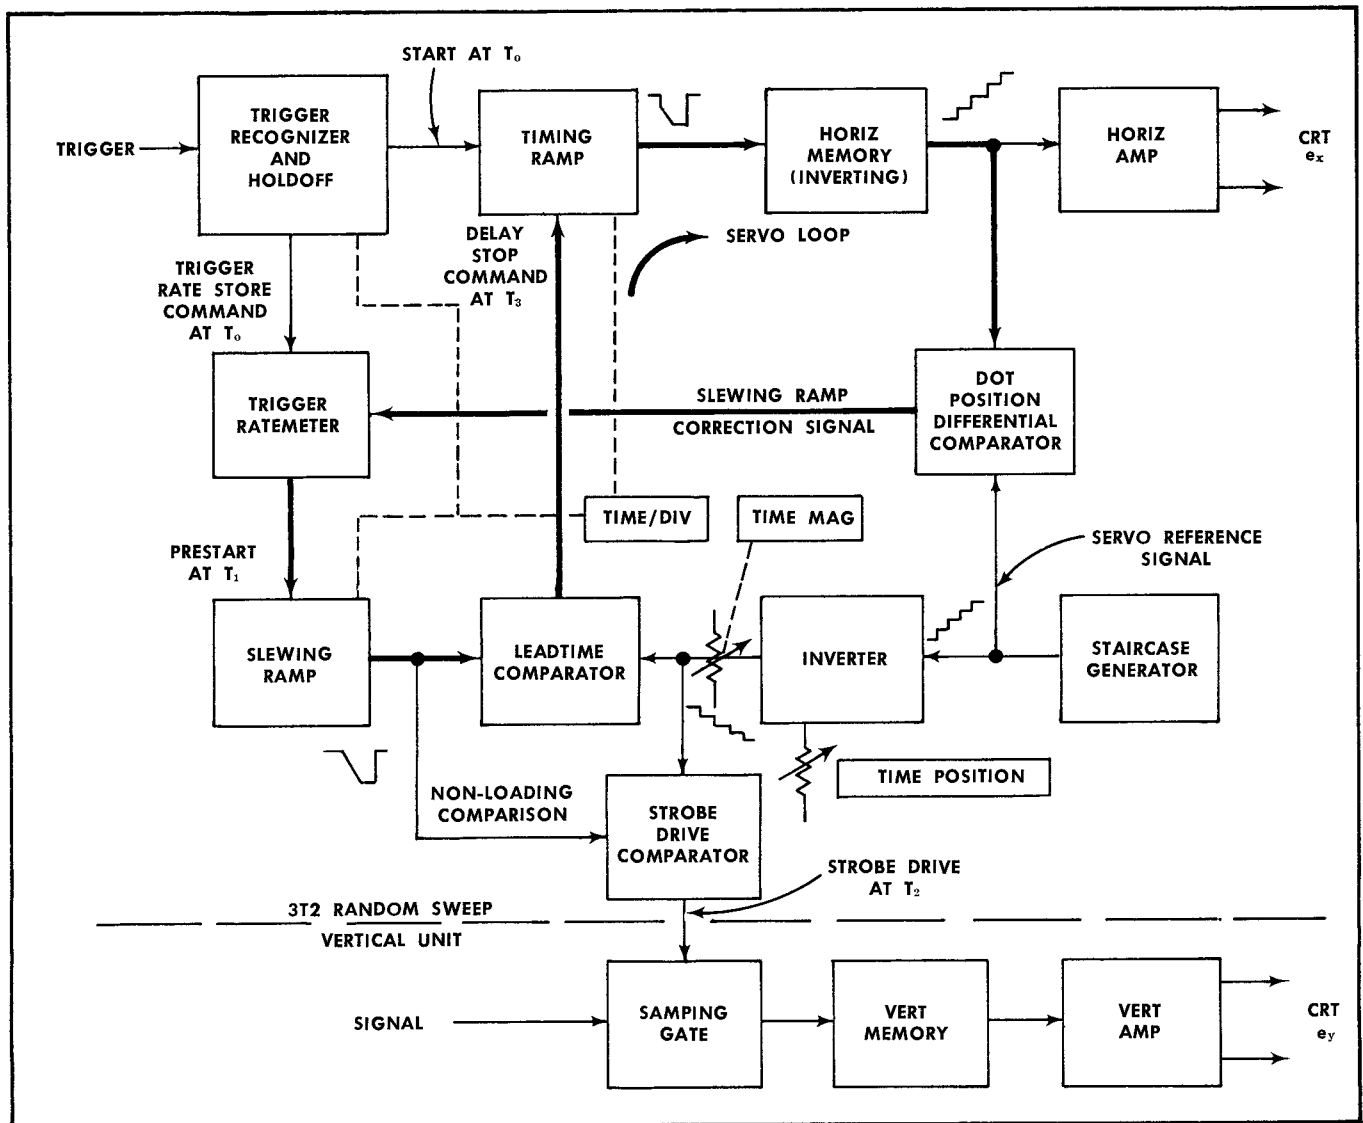
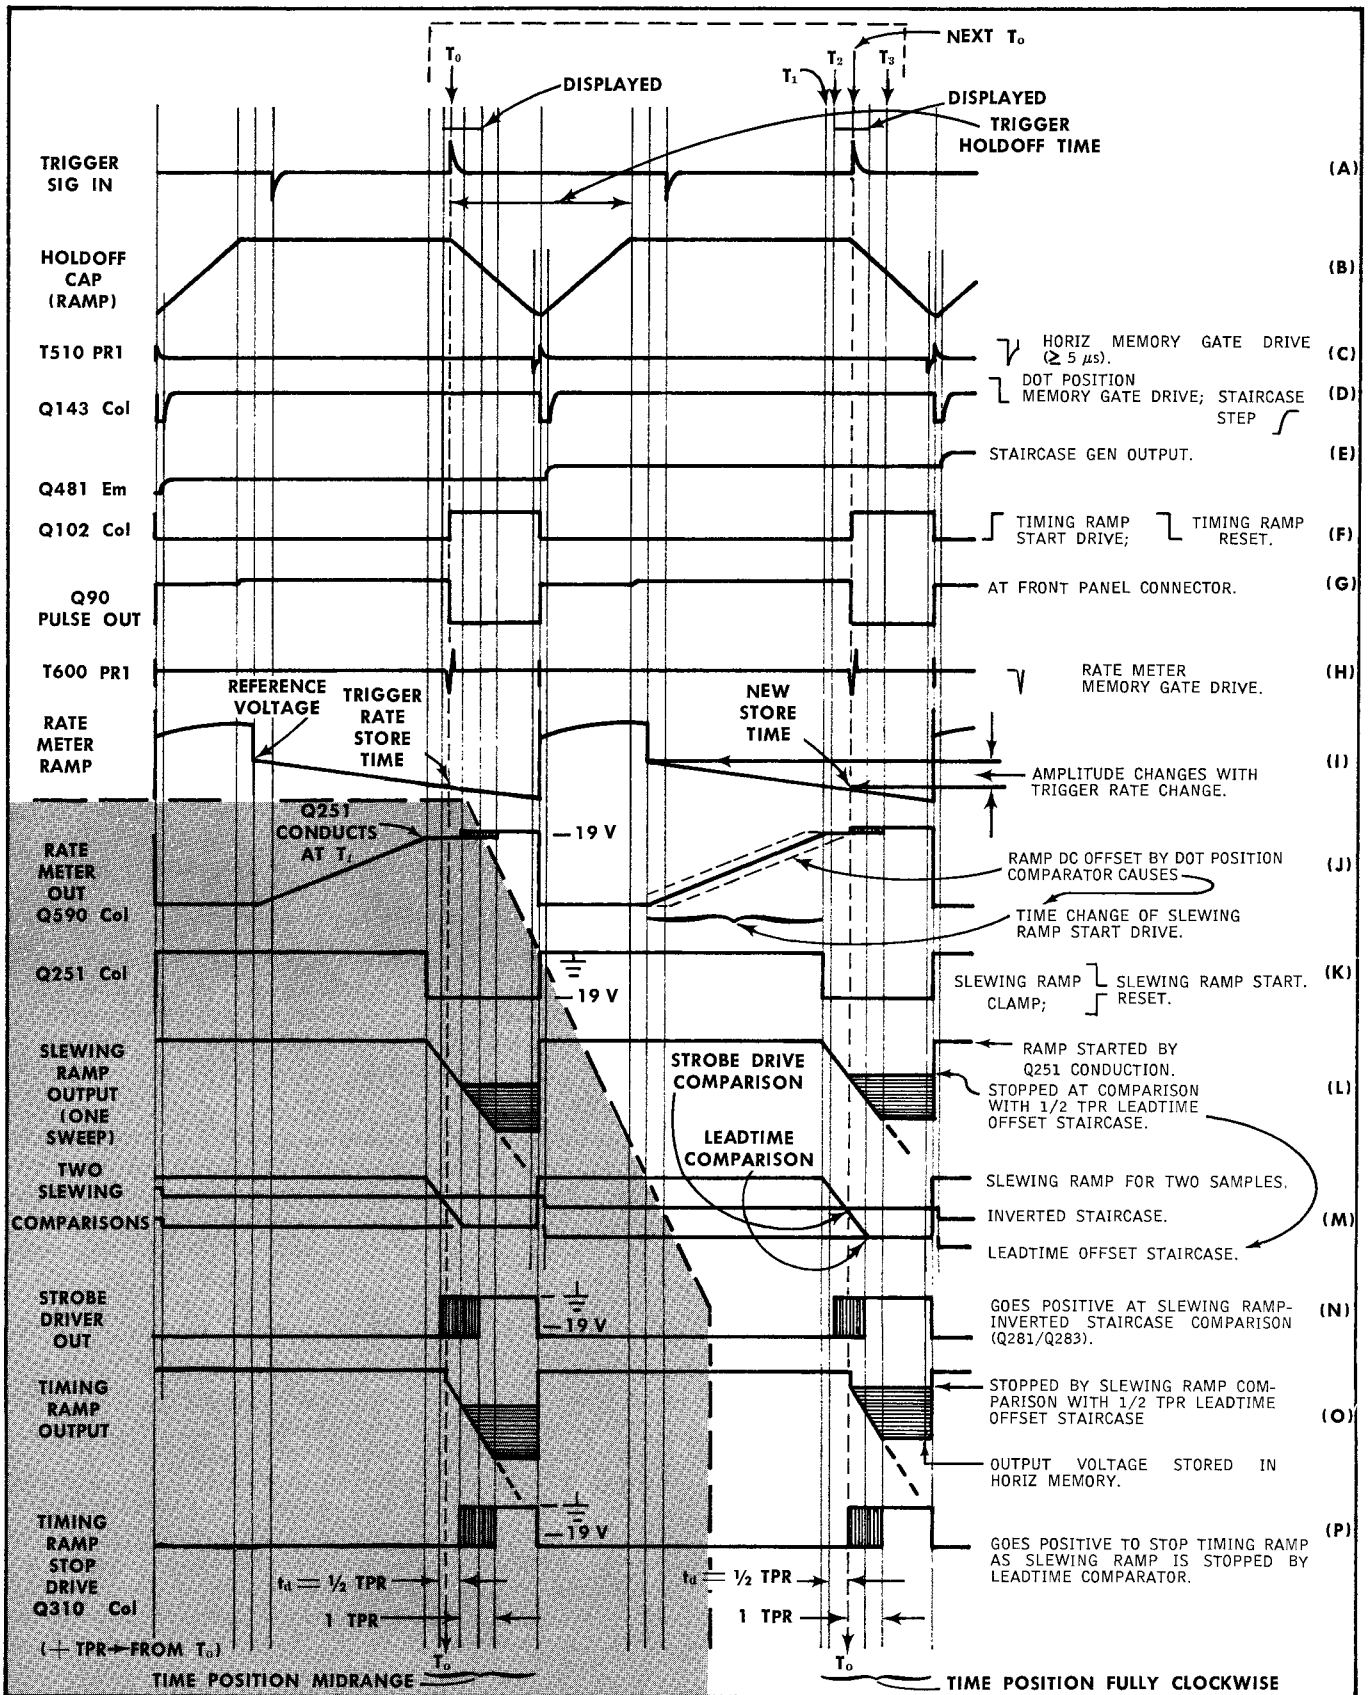

Fig. 2-6. Type 3T2 simplified random sampling process block diagram. See Fig. 3-7 for related waveforms.
Fig. 2-7. Type 3T2 random process waveforms. Trigger circuits are not counting down.
A simplified operational random process sampling system is shown in Fig. 2-6. The system contains a feedback
Waveforms of Fig. 2-7 apply to both the simplified random process block diagram of Fig. 2-6 and to the functional Type 3T2. The shaded area of Fig. 2-7 is discussed later under the heading "Type 3T2 Time Position Control". Fig. 2-7 waveforms can be helpful at a time of troubleshooting because they were obtained under actual operating conditions. Two general kinds of waveforms are shown in Fig. 2-7; single line type that apply to only two successive samples, and multiple line type that apply to the samples of one whole sweep. For example, waveforms (A) through (K) and (M) apply to only two samples, and waveforms (L), (N), (O) and (P) apply to a full Type 3T2 sweep. The triggering signal had very little jitter. This caused the ratemeter ramp waveform to be identical and stable for both samples shown.
Fig. 2-7 has two columns of waveform identification: on the left, the signal source or circuit element where the test oscilloscope probe was connected. On the right, the name of the function related to particular part of the waveform, and in some cases the relationship of two waveforms or circuits, is stated.
Fig. 2-7 timing and slewing ramp waveforms (L and O) include extending dashes at the bottom of the sloping portion. The dashes indicate that the ramps can run farther negative if not stopped by inverted staircase comparison. Each of the two ramps is designed to run for at least twice the time required to display one basic equivalent-time time-window (when the Time Magnifier switch is at  $\times 1$ ). This allows the operator to move the time window beginning over a time region of one range, and to view a maximum of two ranges.
The timing and slewing ramp waveforms at the right side of Fig. 2-7 represent conditions when both TIME POSITION controls are fully clockwise. The first set of ramp waveforms (in the shaded area) show comparisons beginning down their slopes as if the TIME POSITION controls were somewhere about midrange. Note the changes in time between  $T_1$  and  $T_2$  for the two different TIME POSITION control conditions.
$T_3$  ( $T_3$  of Fig. 2-7) covers one quarter of the timing ramp maximum rundown, or  $1/2$  time position range. This term is abbreviated  $1/2$  TPR.
The multiple slewing and timing ramp comparisons drawn in Fig. 2-7 represent very few samples per sweep. Counter-clockwise rotation of the SAMPLES/DIV control would cause many more samples to be taken in the same amount of ramp time. (Changing the Time Magnifier would keep the number of samples the same, but use less ramp time for a complete sweep.)